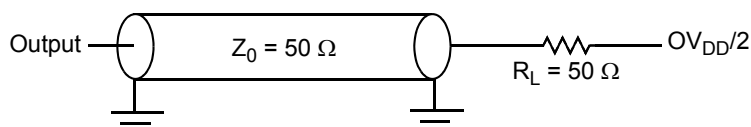

Figure 32. AC Test Load for the JTAG Interface
1. All outputs are measured from the midpoint voltage of the falling/rising edge of t_{CLK} to the midpoint of the signal in question. The output timings are measured at the pins. All output timings assume a purely resistive 50-Ω load (see Figure 32). Time-of-flight delays must be added for trace lengths, vias, and connectors in the system.
2. The symbols used for timing specifications follow the pattern of $t_{(first\ two\ letters\ of\ functional\ block)(signal)(state)(reference)(state)}$ for inputs and $t_{(first\ two\ letters\ of\ functional\ block)(reference)(state)(signal)(state)}$ for outputs. For example, t_{JTDVXH} symbolizes JTAG device timing (JT) with respect to the time data input signals (D) reaching the valid state (V) relative to the t_{JTG} clock reference (K) going to the high (H) state or setup time. Also, t_{JTDVXH} symbolizes JTAG timing (JT) with respect to the time data input signals (D) went invalid (X) relative to the t_{JTG} clock reference (K) going to the high (H) state. Note that, in general, the clock reference symbol representation is based on three letters representing the clock of a particular functional. For rise and fall times, the latter convention is used with the appropriate letter: R (rise) or F (fall).